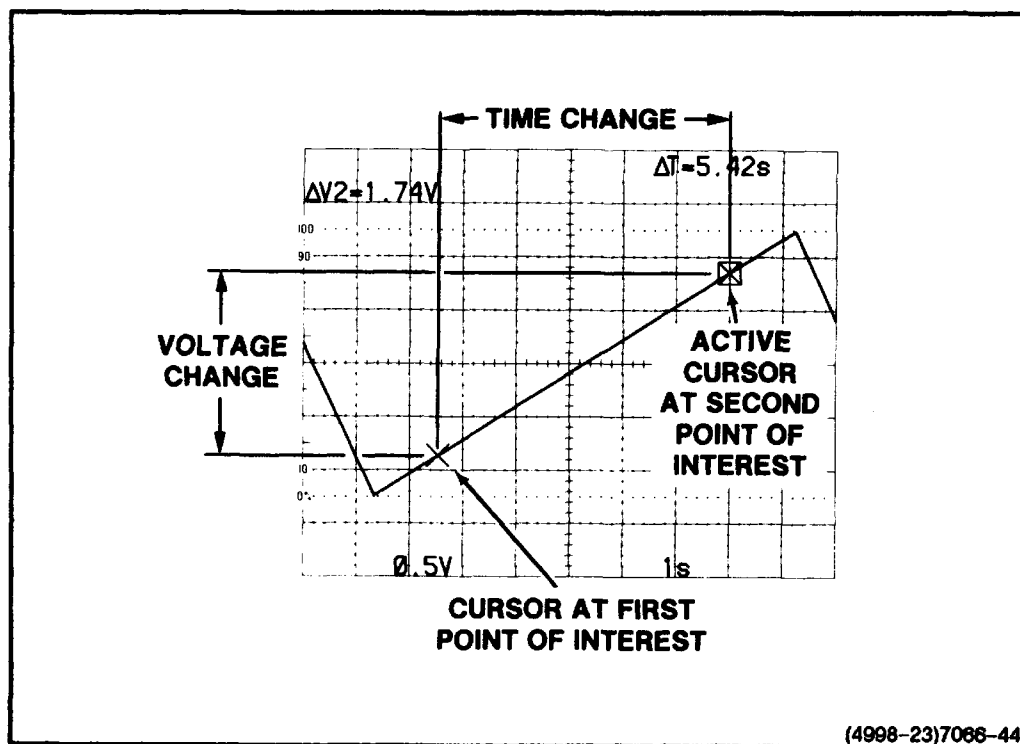

Figure 6-19. Slope using cursors.
4. Set the SEC/DIV switch to horizontally spread the portion of the waveform to be measured across the width of the graticule area (see Figure 6-19).